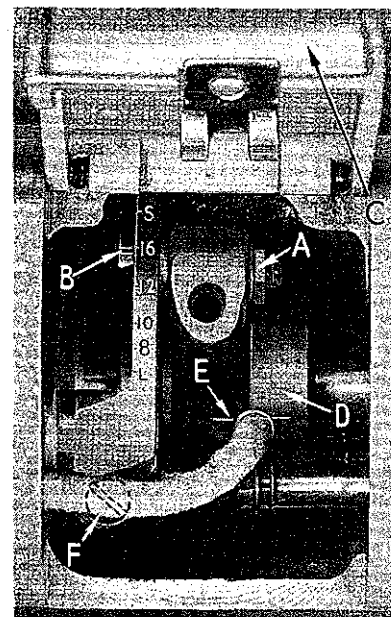

Fig. 10
**NOTE:** The needle feed and the drop feed should move together. If not loosen nut (A, Fig. 10) and reposition connecting stud (B) forward or backward to a point where they are synchronized. Tighten nut (A) securely.